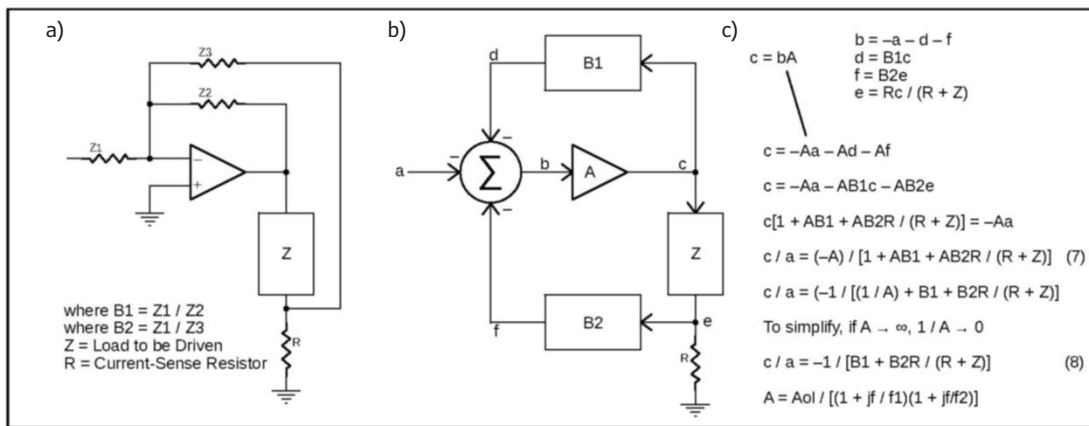

Figure 6: The VSCS amplifier circuit (a) and the block diagram (b) are shown along with the derivation (c).
Figure 6 shows the voltage source/current source (VSCS) amplifier circuit (left) and block diagram (right), and derivation. $Z2$ can be looked at as the voltage feedback path and $Z3$ as the current feedback path [(d) and (f), respectively, in the block diagram].
Like the inverting amplifier, Equation (7) from Figure 6 can be used to show instability, but this time when $A\beta1 + [A\beta2 R/(R+Z)]$ approaches -1 , the circuit is unstable. Note that now not only are the Amplifier